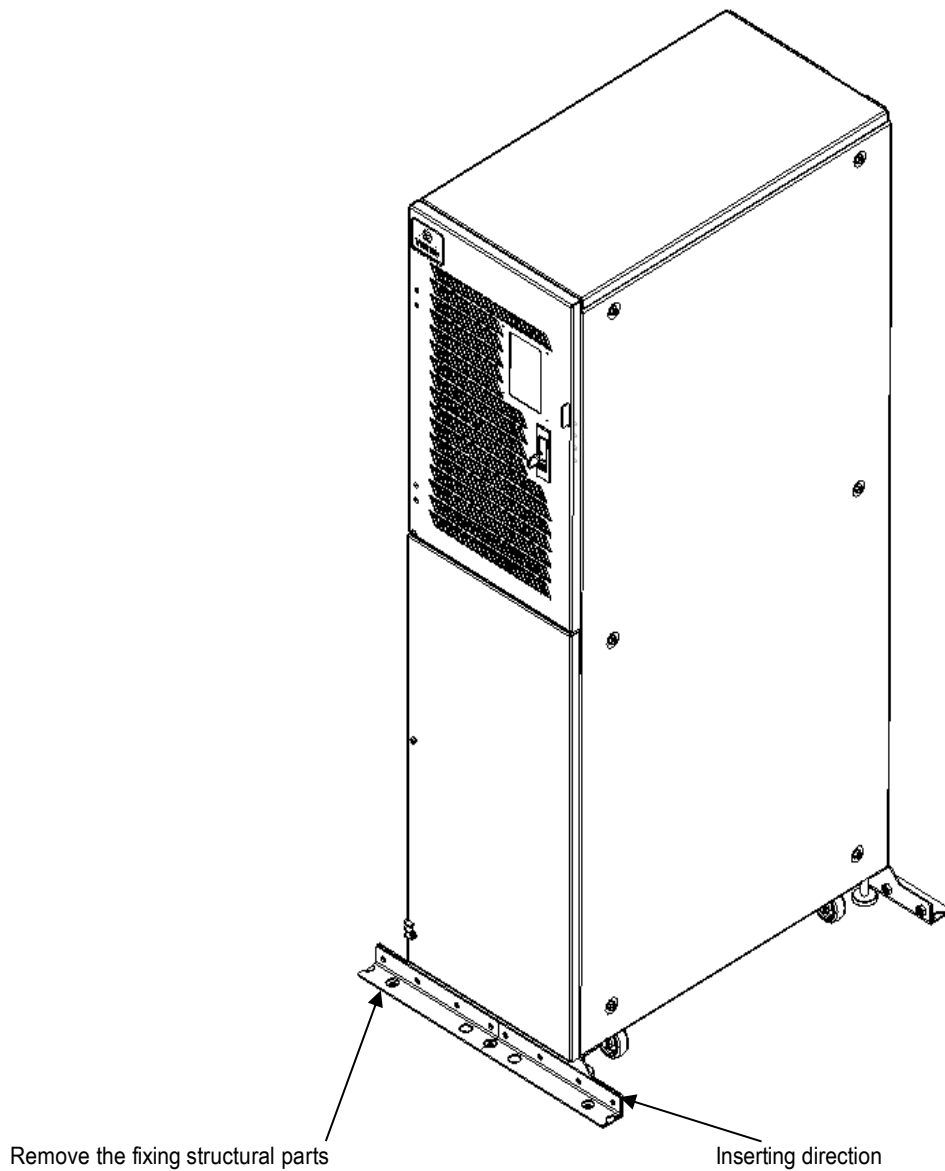

Figure 2-2 Removing the bottom pallet
2. Remove the fixing structural parts from the bottom pallet (see Figure 2-2), do not throw them away. Next, use the forklift (inserting the forks at the points illustrated in Figure 2-2) to move the cabinet close the installation site.